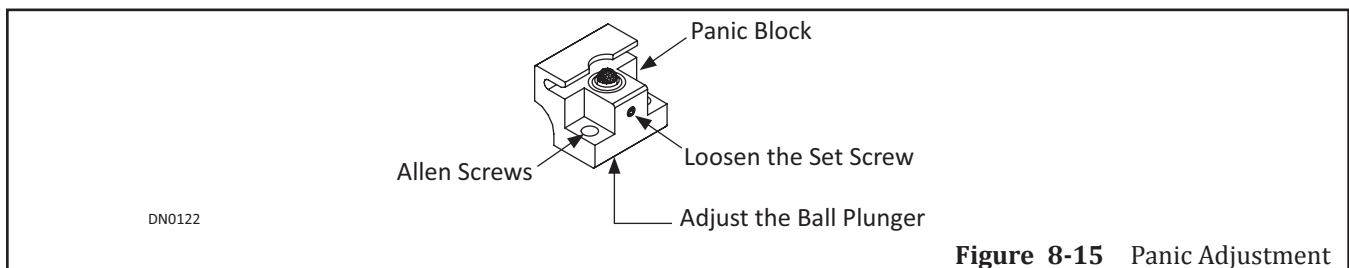

Figure 8-15 Panic Adjustment
2. Remove (2) 1/4-20 x 1-1/4 inch Socket screws that are used to secure the Allen Block to the Top Rail. Please see Figure 8-15.